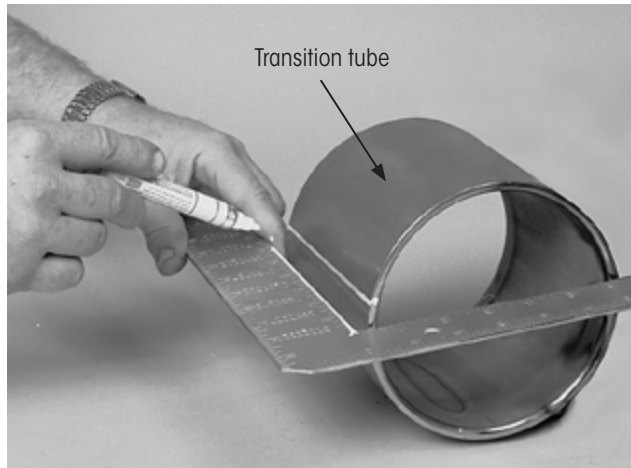

Figure 28: Drawing an orientation line on transition tube
1. Using a square, **scribe or draw** a line on the transition tube (Figure 28). This line will be used to properly orient the bushing during installation.